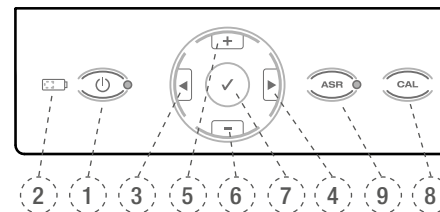

Fig. 4 Keypad
- or the micromotor may also be operated by holding down the CONFIRM key ✓ (7), Fig. 4 for 1.5 seconds. The micromotor can be stopped again by pressing any key or the foot pedal. To conserve battery power, when operated with the CONFIRM key ✓, the micromotor will stop automatically after 5 minutes of non-use.
Press the POWER key to switch off the device. The battery LED (2), Fig. 4 will not light up unless the battery is charging.
Calibrating CAL (8), Fig. 4 the micromotor automatically adjusts the torque measurement to ensure torque accuracy each time the micromotor has been changed, the contra-angle is replaced, autoclaved and/or lubricated.
- Hold down the CAL (8) key.